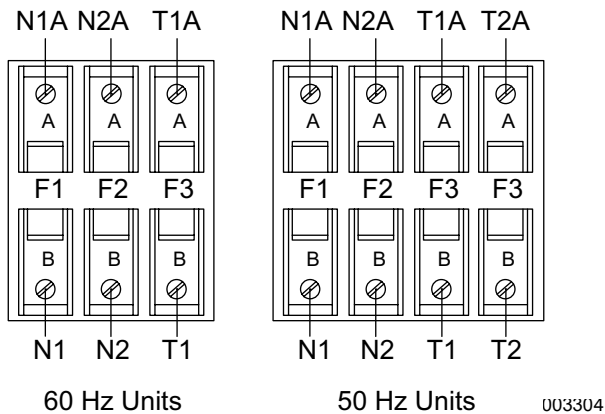

Figure 3-86. Transfer Switch Fuse Block
5. See Figure 3-86. Remove fuse F3 (T1) from the fuse holder.